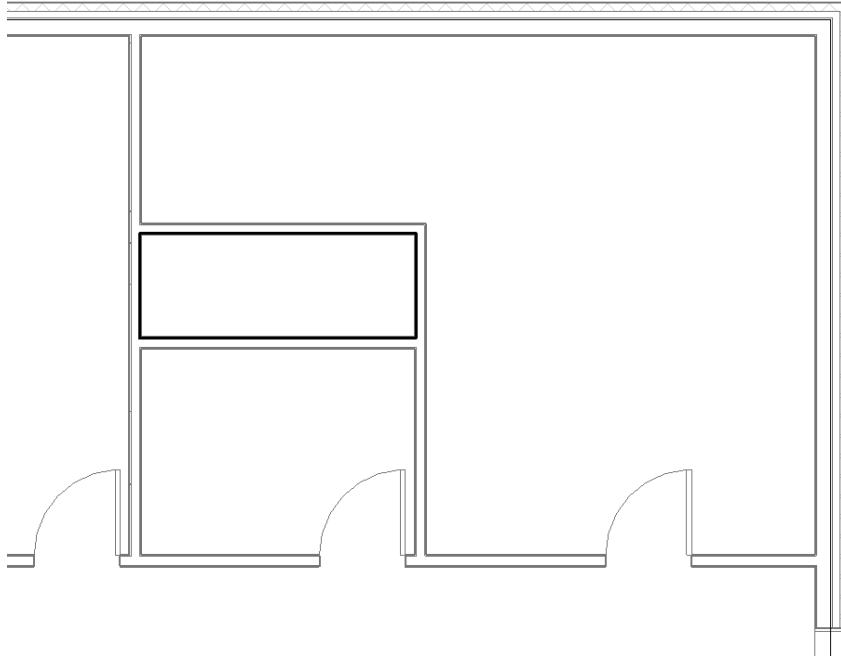

Figure 7-3.10 Level 2 (North-East corner): Floor boundary at shaft
24. While still in *Sketch* mode for the Level 2 floor, pan to the right to show the area in Figure 7-3.10.